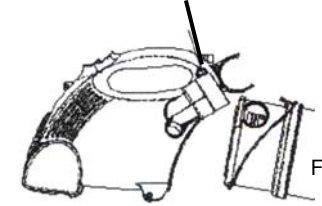

Fig. 7
2. To open the Dust Cup (container), push button and remove the Dust Cup (container). (Fig. 7)